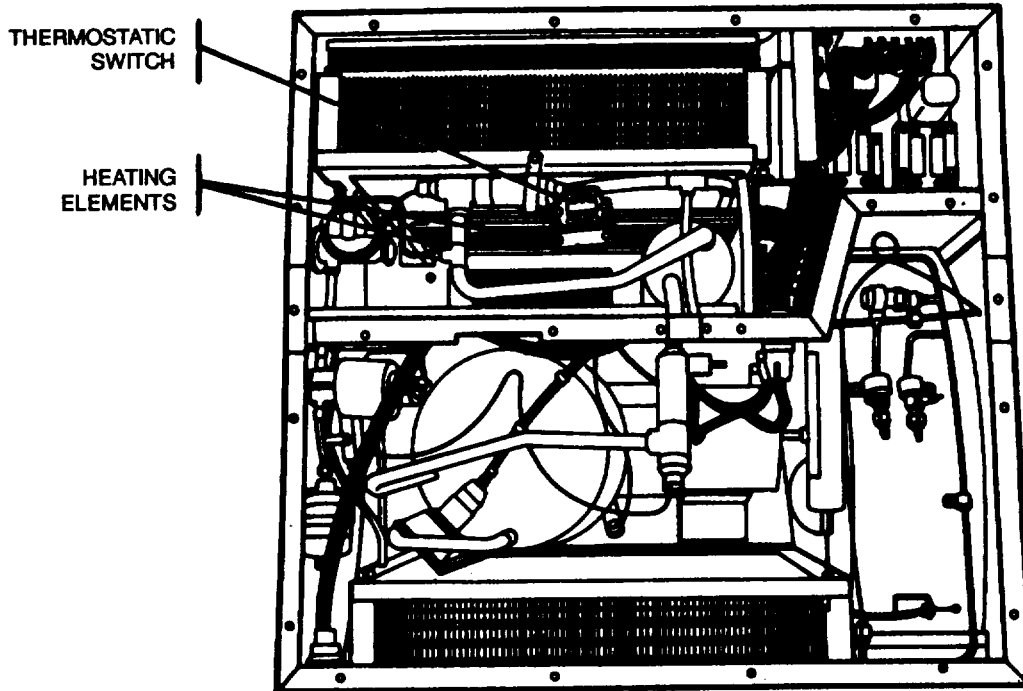

Figure 1-4. Air Conditioner, Top View, Top Covers Removed, Heating Section
1.8.3 Heating Section (See figure 1-4.).